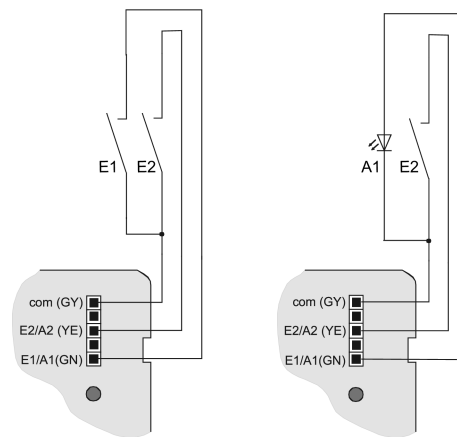

Figure 2: Connection examples push-buttons / switches / contacts and LED
The bus connection is made with a bus terminal (A). The connection of the push-buttons / switches / contacts or LEDs is carried out with the help of the attached connecting cable (Figure 2).